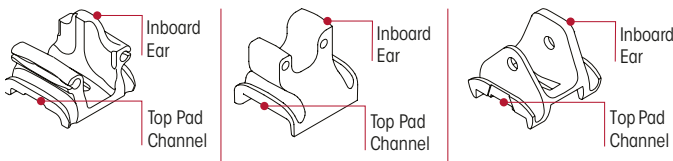

Figure 109: Top Pad Variation
1. Install the top pad on the top of the axle engaging the dowel pin. Care should be taken to ensure the taller ear of the top pad is mounted to the inboard side of the suspension. The top pad varies with different models and may appear different. Refer Figure 109.
3. Verify that the U-bolts are seated properly in the top pad channels. Refer Figure 109.